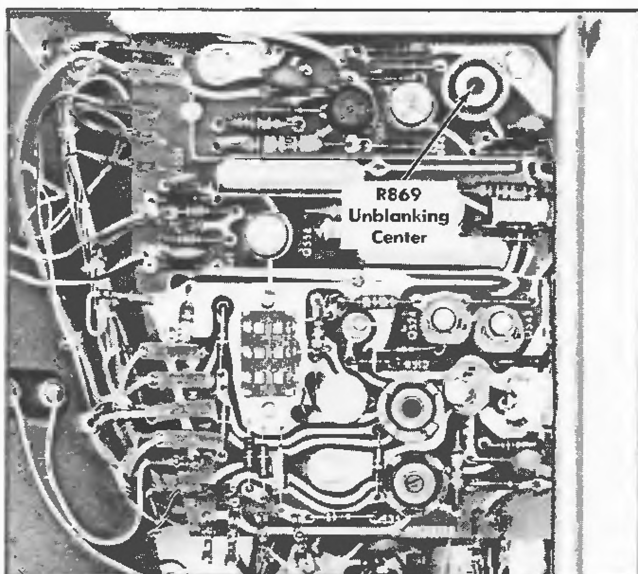

Fig. 6-8. Location of Unblanking Center adjustment (Horizontal Amplifier board).
c. **ADJUST**—Unblanking Center adjustment, R869 (see Fig. 6-8), for maximum trace intensity. This should occur near the center of control rotation.